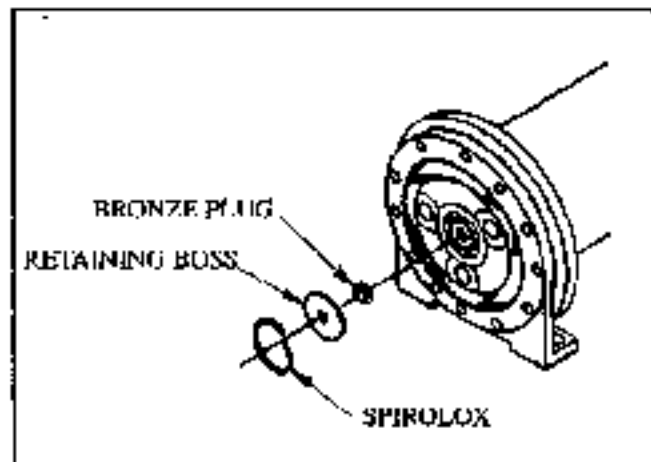

Figure 28
6. Install retaining boss, bronze plug, and the Spirolox retaining ring. See figure 28.